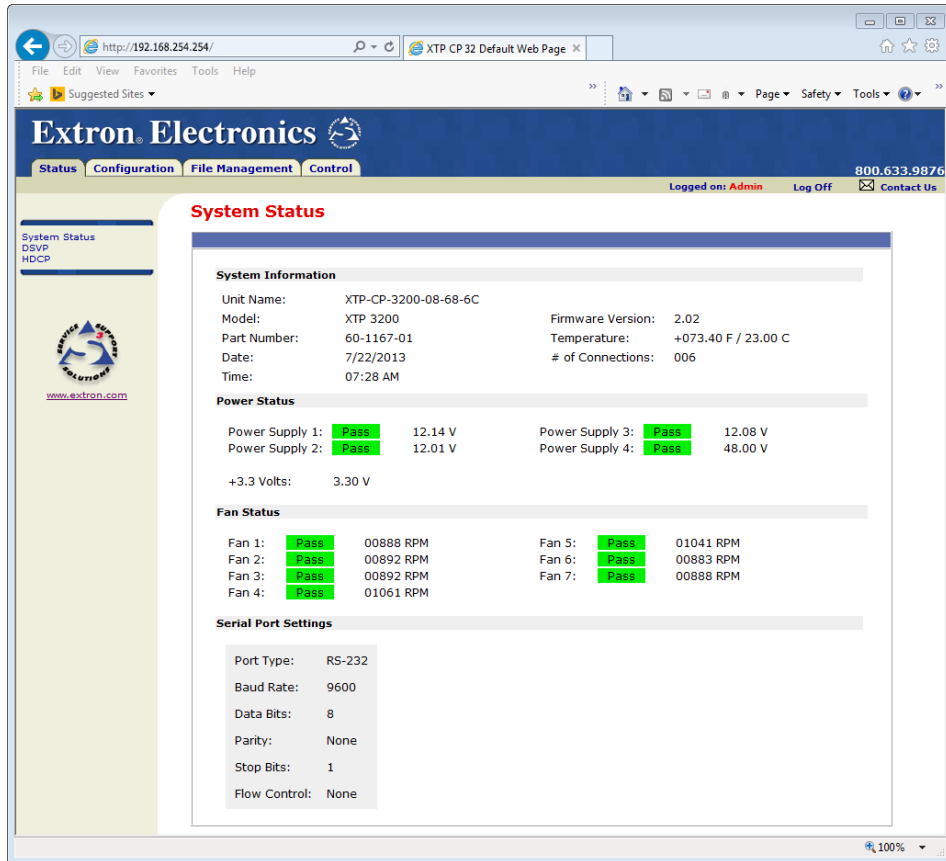

Figure 26. System Status Page
5. Click the **OK** button (②).
- If neither of the above conditions is true, the matrix switcher downloads the factory-installed default startup page, "nortxe_index.html" (see figure 26 on the next page), also known as the System Status page.
The System Status page (see figure 26) provides an overall view of the status of the matrix switcher, including individual voltages, fan operation, and the serial port status. The System Status page is the default page that the matrix switcher downloads when you connect to the matrix switcher. Access the System Status page from other pages by clicking the **Status** tab.